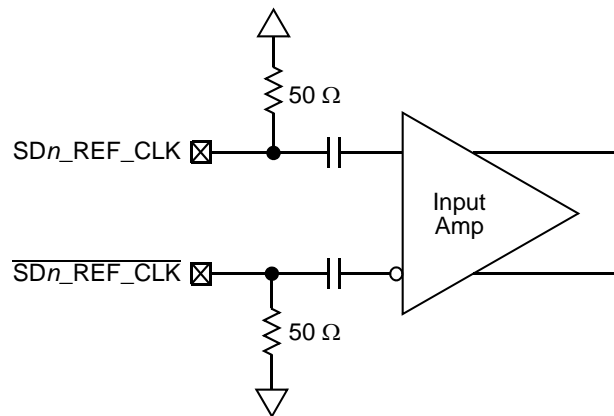

Figure 23. Receiver of SerDes Reference Clocks
Figure 23 shows a receiver reference diagram of the SerDes reference clocks.
- The SD_REF_CLK and $\overline{SD_REF_CLK}$ are internally AC-coupled differential inputs as shown in Figure 23. Each differential clock input (SD_REF_CLK or $\overline{SD_REF_CLK}$) has a 50- Ω termination to $XCOREV_{SS}$ followed by on-chip AC coupling.